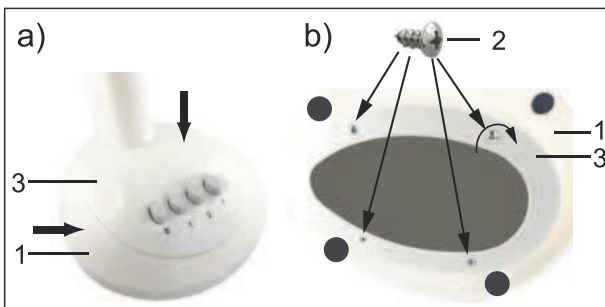

Fig.13: Mounting base
1. Insert the base (3) with the motor block and the fan speed adjustment push buttons into the base (1), Fig 13 a).